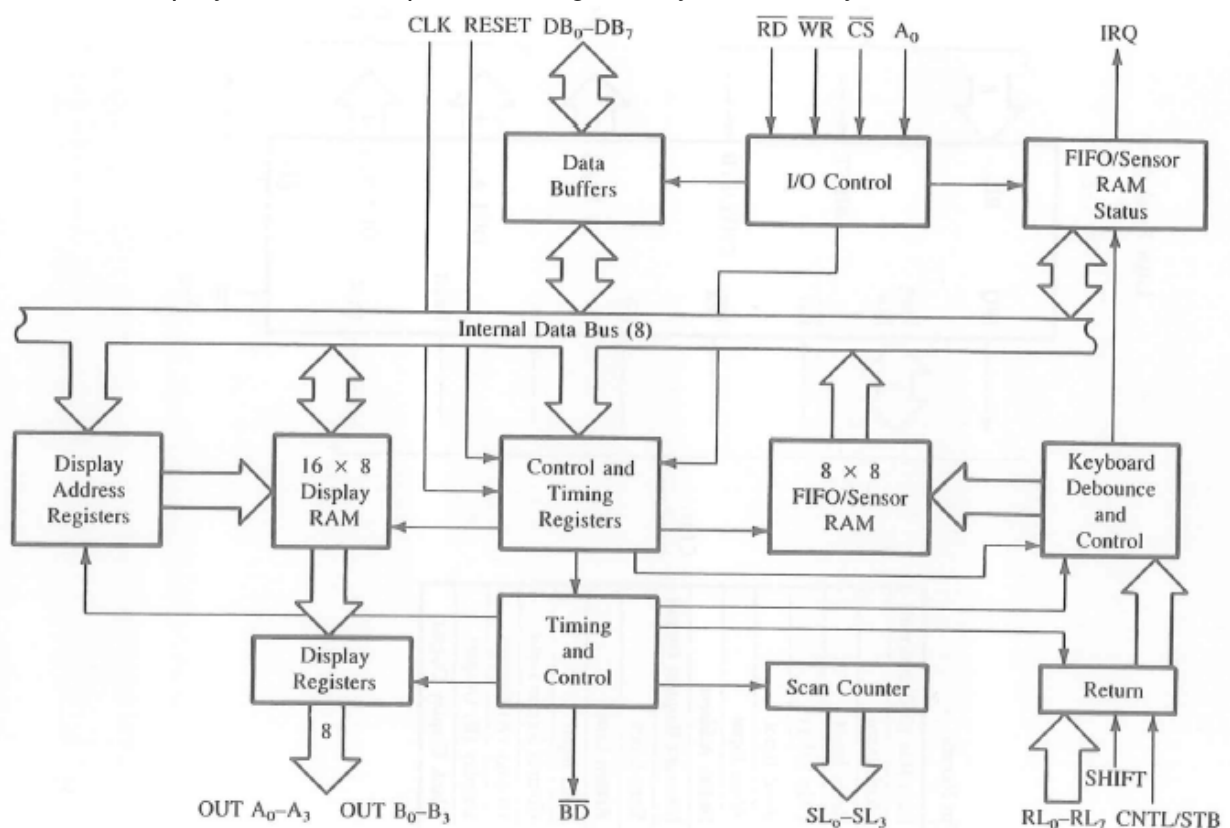

Figure 3.10 8279 Logic Block Diagram
- ❖ The block diagram (figure 3.10) shows four major sections of the 8279: